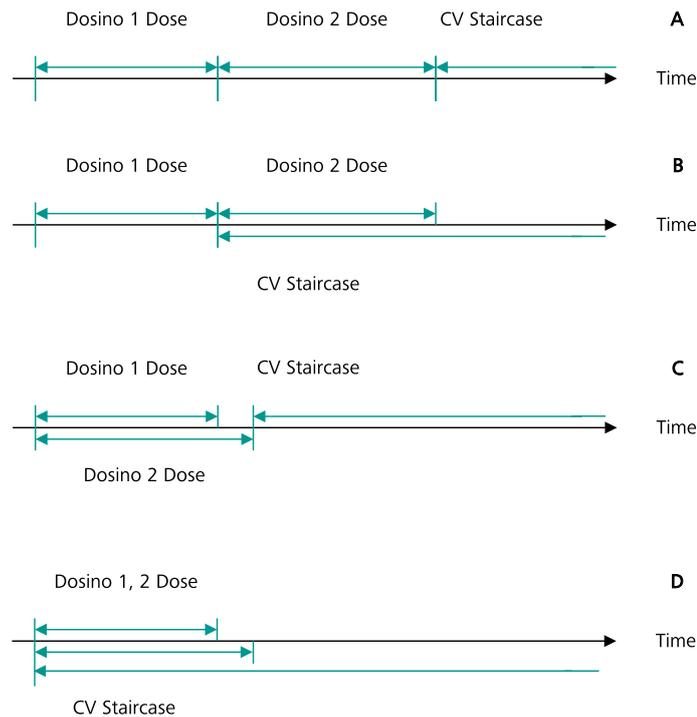

Figure 306 Illustration of the parallel execution option for the Metrohm devices
- In *Figure 306, A*: Dosino 1 and Dosino 2 have parallel execution disabled. Both Dosino need to finish the Dose command before the CV staircase command can start.
- In *Figure 306, B*: parallel execution is enabled on Dosino 2 and disabled on Dosino 1. Dosino 2 starts dosing immediately after Dosino 1 is finished. The CV staircase command starts as soon as Dosino 2 starts dosing.
- In *Figure 306, C*: parallel execution is enabled on Dosino 1 and disabled on Dosino 2. Dosino 2 starts dosing at the same time as Dosino 1. Only when Dosino 2 is finished can the CV staircase command start.
- In *Figure 306, D*: parallel execution is enabled for both Dosino 1 and Dosino 2. All three commands start at the same time.